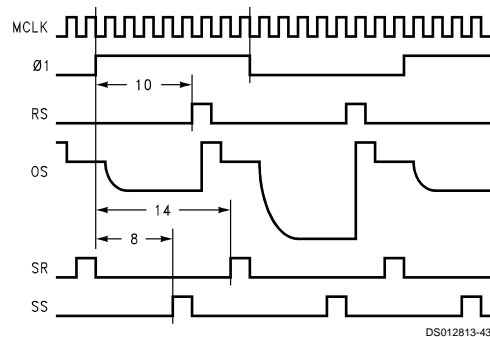

FIGURE 35. Typical Even/Odd Timing
The Mode is set to Even/Odd, RS Pulse Width is set to its minimum value, and RS polarity is positive. The timing, shown in Figure 35, is determined by the RS, SR, and SS registers. The RS pulse position (RS) is set to 10, dividing the pixel period so that the *signal* portion is available for the first 5 MCLKs following a $\phi1$ clock edge and the *black reference* portion appears during the last 2 MCLKs (following the 1 MCLK wide reset pulse). Sample Reference (SR) is set to 14, so it samples the black reference just before the next $\phi1$ clock edge. Sample Signal (SS) is set to 8, so it samples the black reference just before the next reset pulse. These values can be adjusted to account for differences in CCDs, CCD data delays, settling time, etc., but this is often not necessary.